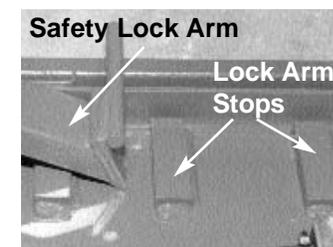

Figure 26
7. To lower vehicle and remove support stands, make certain treadway extensions and wheel stops are installed. Press 'up' button to release lock arms from stops. (See Figure 26.) Fully depress the down button to release the safety lock arm and lower the mainframe.